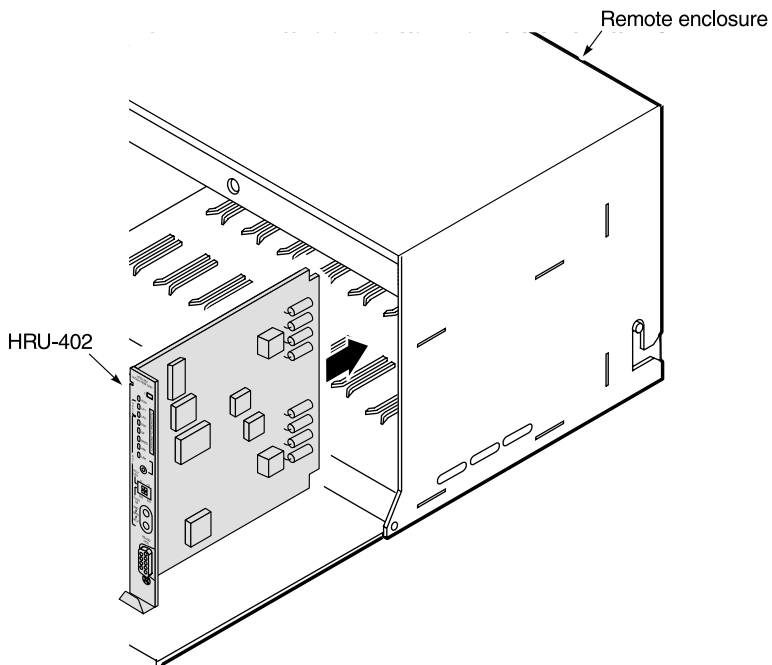

Figure 4. *Installing the HRU-402 in a Remote Enclosure*
- 2 Slide the remote unit into the card guides for the desired slot, then push the unit into the enclosure until it seats properly in the card-edge connector (Figure 4).